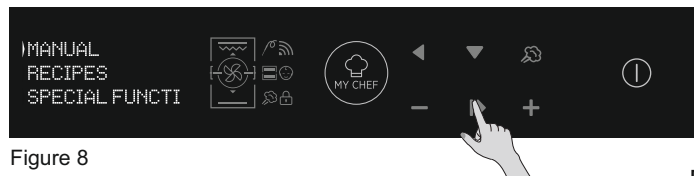

Figure 8
- Press the OK button when arrow on the display at MANUAL to set a cooking in 3 simple steps. (Figure 8)